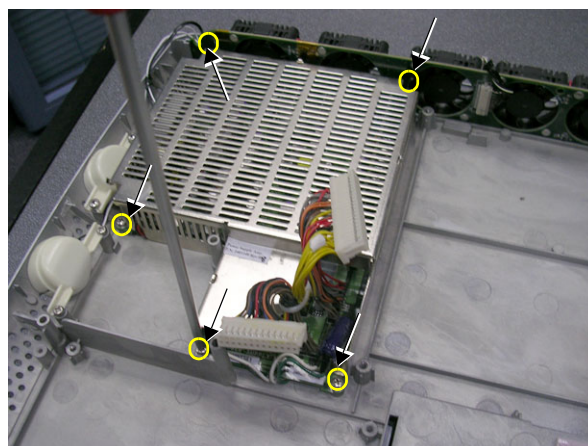

Figure 8-56 Loosening the Screws on the DC Power Supply
- 4) Loosen the five screws that secure the DC Power Supply to the Bottom Assembly, as shown in Figure 8-56 below.
- 2) Return the five screws and fasten the HVPS in position on the Bottom Assembly, as shown in Figure 8-56 on page 8-46.